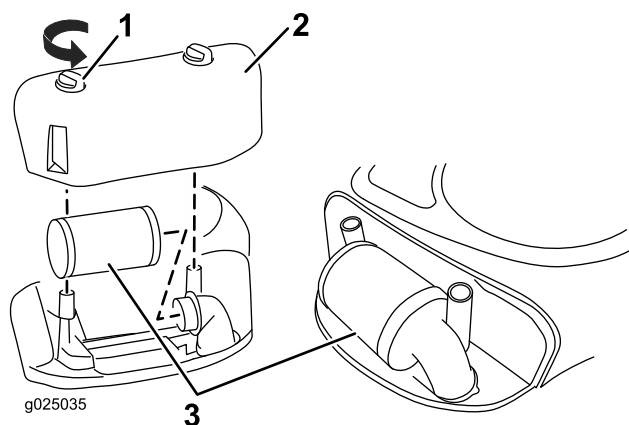

Figure 21
2. Turn the knobs to the unlock position (Figure 21).
4. To remove the filter, lift the end of the filter (Figure 21).
2. Install the air filter cover and knobs (Figure 21).